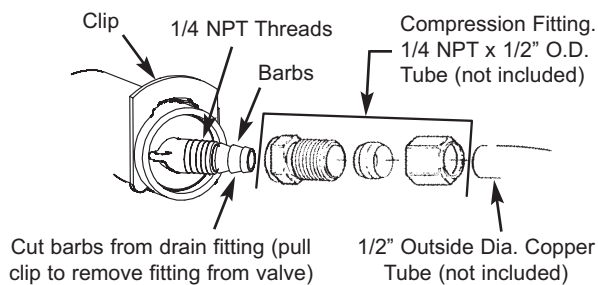

FIG. 4
- If installing a single bypass valve, push the bypass valve, with lubricated o-ring seals in place, into the valve inlet and outlet ports (See Figures 4 & 5).
- If installing a 3-valve bypass system, slide plastic installation adaptors, with lubricated o-ring seals in place, into the valve inlet and outlet ports (See Figure 4 & 5).
The house cold water pipe (metal only) is often used as a ground for the house electrical system. The 3-valve bypass type of installation, shown in Figure 4, will maintain ground continuity. If you use the plastic bypass, continuity is broken. To restore the ground, do either step **4a** or **4b** following.
- a. Take a length of 1/2" inside diameter hose and attach to the valve drain fitting, securing it with a hose clamp (See Figure 4 on page 6).
- b. Locate the other end of the hose at a suitable drain point (floor drain, sump, laundry tub, etc.). Check and comply with local codes. Refer to Figure 4 on page 6 if codes require a rigid pipe drain run.